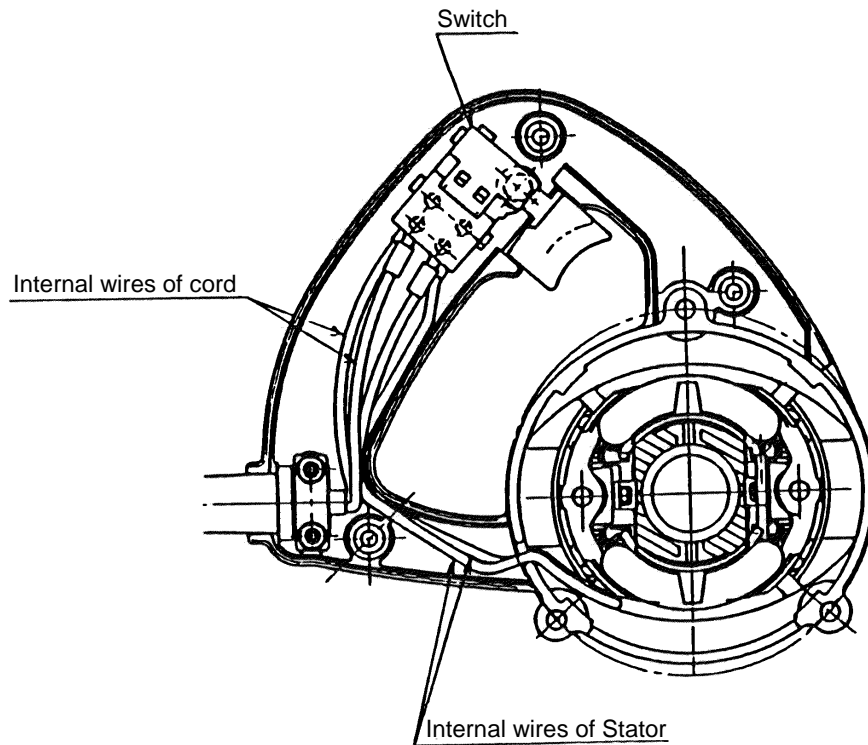
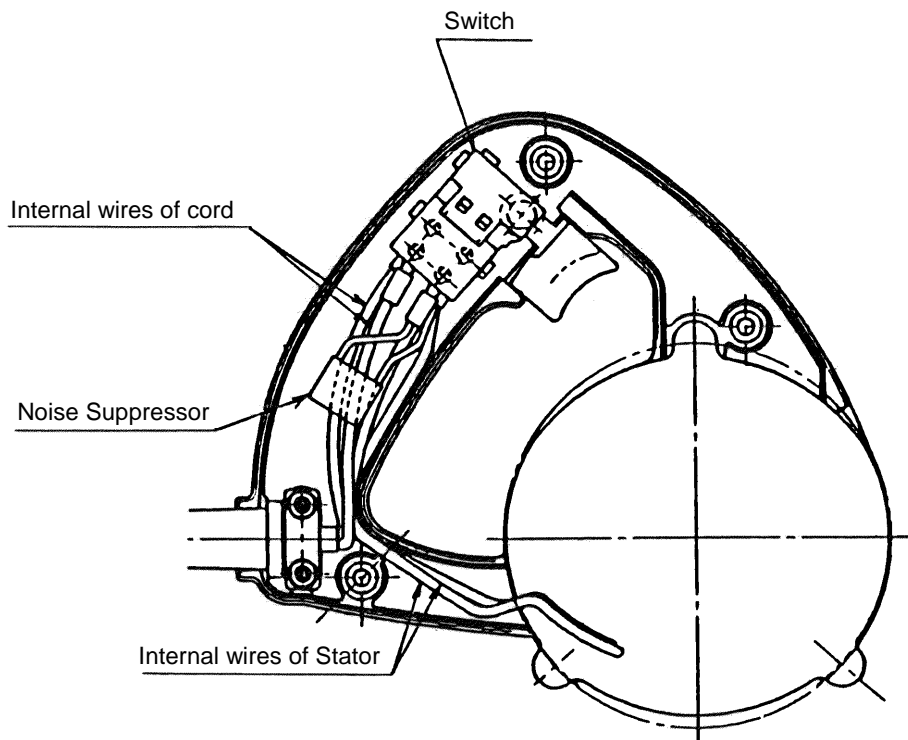

Fig. 18
Fig. 20
(7) Internal wire arrangement (See Fig. 18 - 20)
Connect internal wires as illustrated in Fig. 18 - Fig. 20. At this time, ensure that none of the wires are pinched between components during assembly.